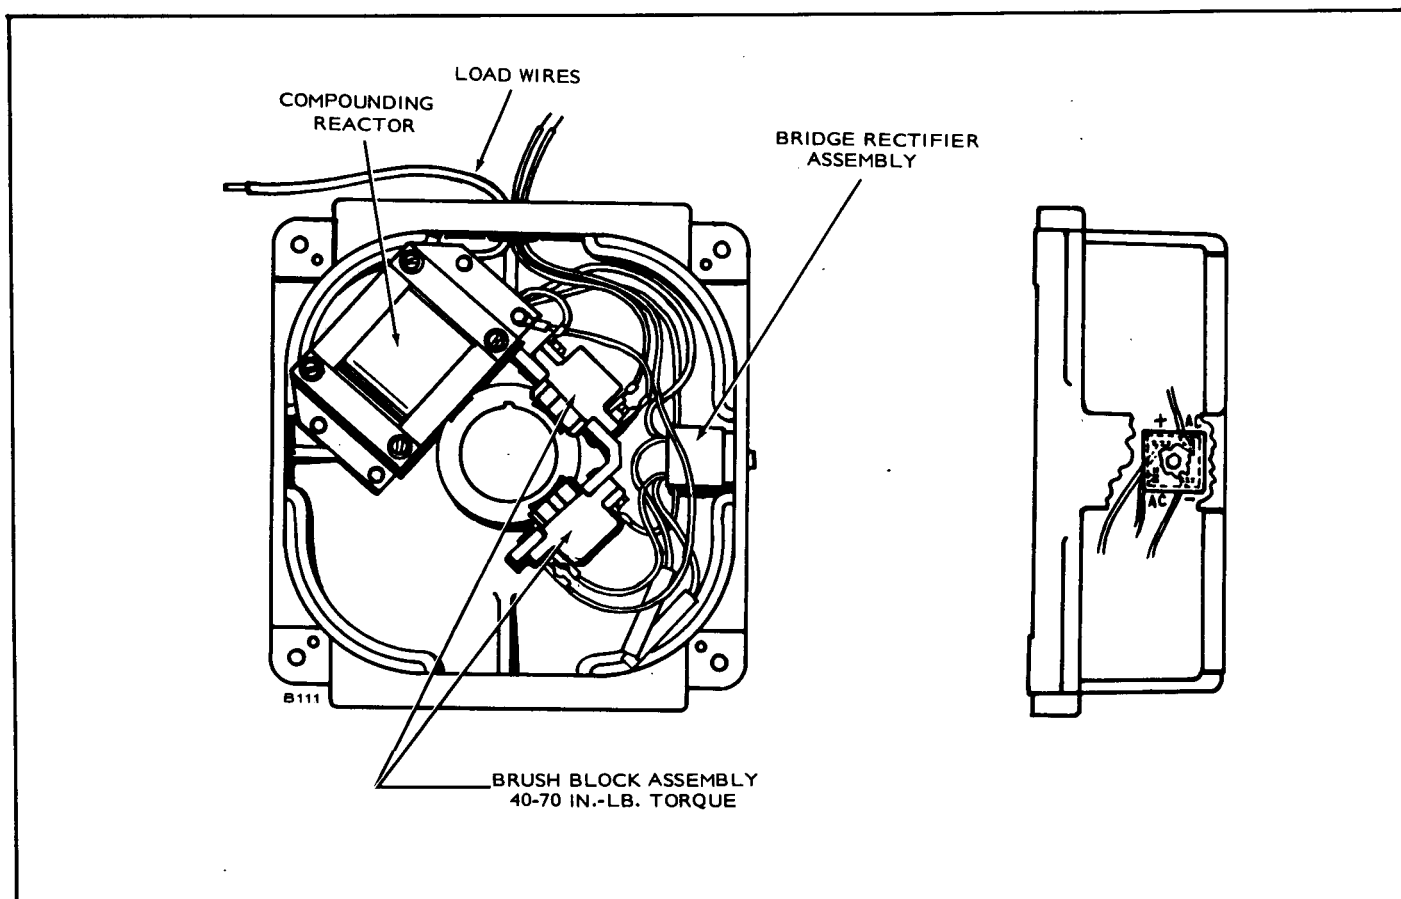

FIGURE 54. END BELL ASSEMBLY
1. Loosen No. 8-32 screw to remove bridge rectifier assembly (see Figure 54 for location).